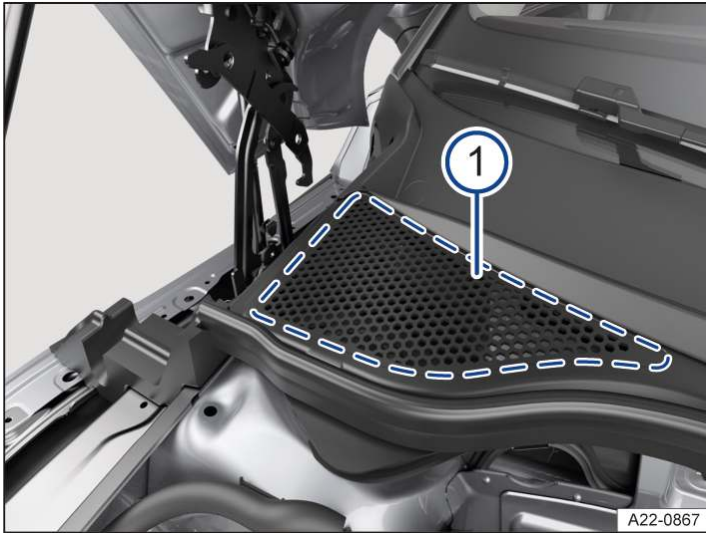

Fig. 1 Between the bonnet space and the windscreen: plenum chamber (illustration).
- Have the area under the perforated cover cleaned regularly by a suitably qualified workshop → Fig. 1 ①. Volkswagen recommends using an authorised Volkswagen repairer.
- Remove leaves and other loose objects on the perforated cover with a vacuum cleaner or by hand → Fig. 1 ①.